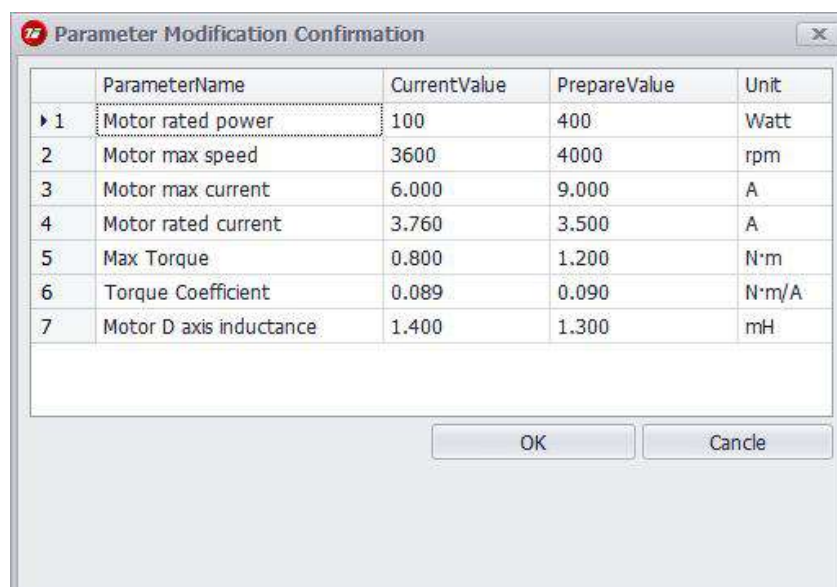

Figure 4-6 Confirmation of parameter modification
③Click on the "**Download**" button to download all the parameters of the current page to the servo, and the software will have a window popping up with tips for changing the parameters, as shown in Figure 4-6.